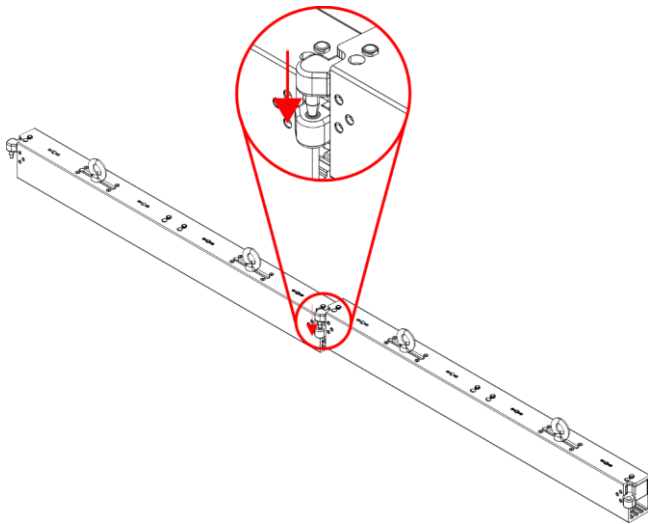

Fig. 18
- 01) Put the **pin (08)** of the device in front of the **opening for pin (01)** of the other device, so that the **pin (08)** of first device fits into the **opening for pin (01)** on the second device, as shown in Fig. 18 and 19.